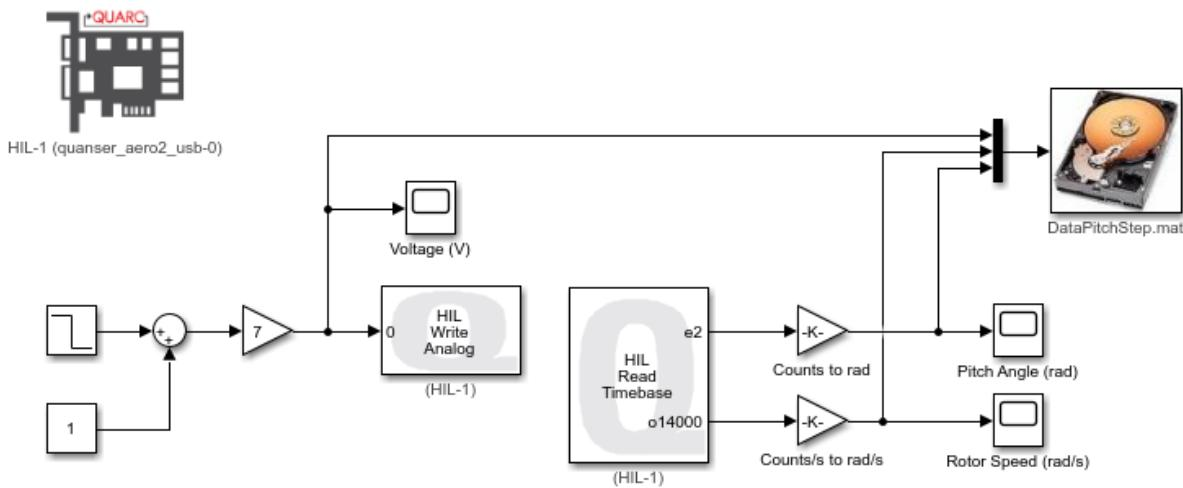

Figure 1 – q_aero2_pitch_step.slx Simulink model
2. Open the *q_aero2_pitch_step.slx* Simulink model as in Figure 1 above.